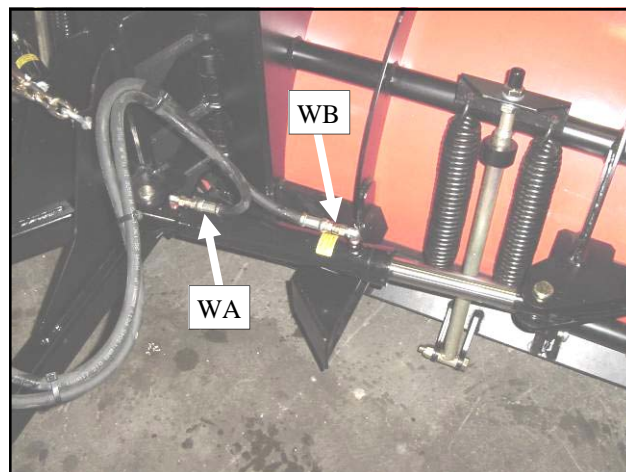
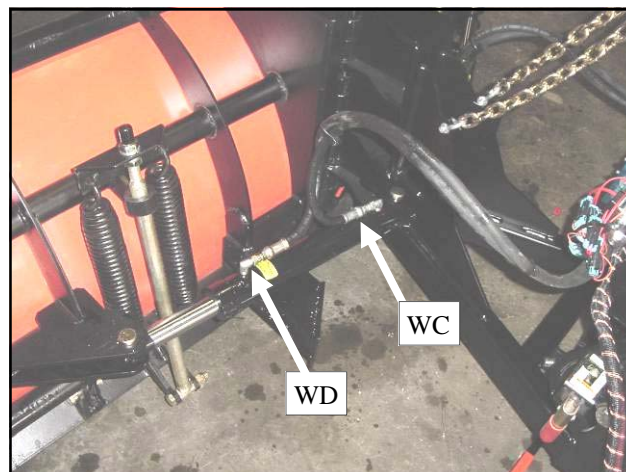

Fig. 8.4 (view from passenger's side)
Fig. 8.4.1 (view from driver's side)
8.4 Per fig. 8.4, attach two of the hydraulic hoses to the passenger's side hydraulic cylinder where shown. The hose ports are stamped right into the aluminum block of the manifold. Find the hose associated with port WB and connect it to the ram (outboard) end of the passenger's side hydraulic cylinder. Find the hose associated with port WA and connect it to the stationary end of the passenger's side hydraulic cylinder. **For the driver's side,** (see fig. 8.4.1) find the hose associated with port WD and connect it to the ram (outboard) end of the driver's side hydraulic cylinder. Find the hose associated with port WC and connect it to the stationary end of the driver's side hydraulic cylinder.